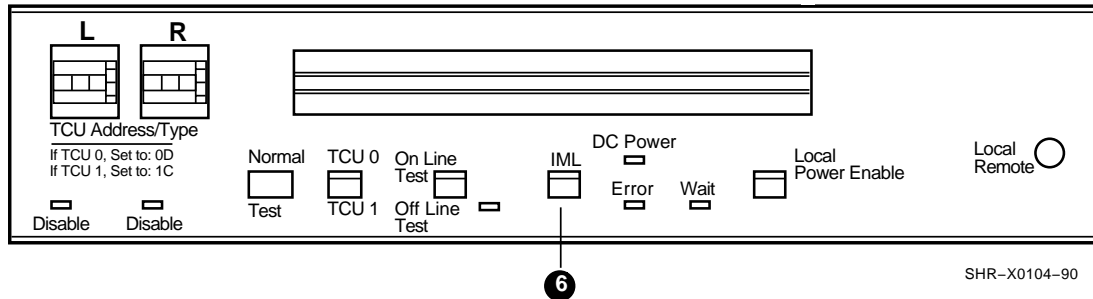

Figure 2-9 Initial Microprogram Load (IML) Pushbutton
The IML pushbutton ⑥ resets internal controls in the tape control unit (Figure 2-9). Pressing this pushbutton causes all information that was supplied by any controlling computer to the tape control unit to be erased, including buffered data. Generally, this pushbutton is not used during normal operations. The IML pushbutton will not function unless the tape control unit On Line Test/Off Line Test switch is set to Off Line Test. After setting the switch to the Off Line Test position, wait for the Off Line Test light to come on before pressing the IML pushbutton.